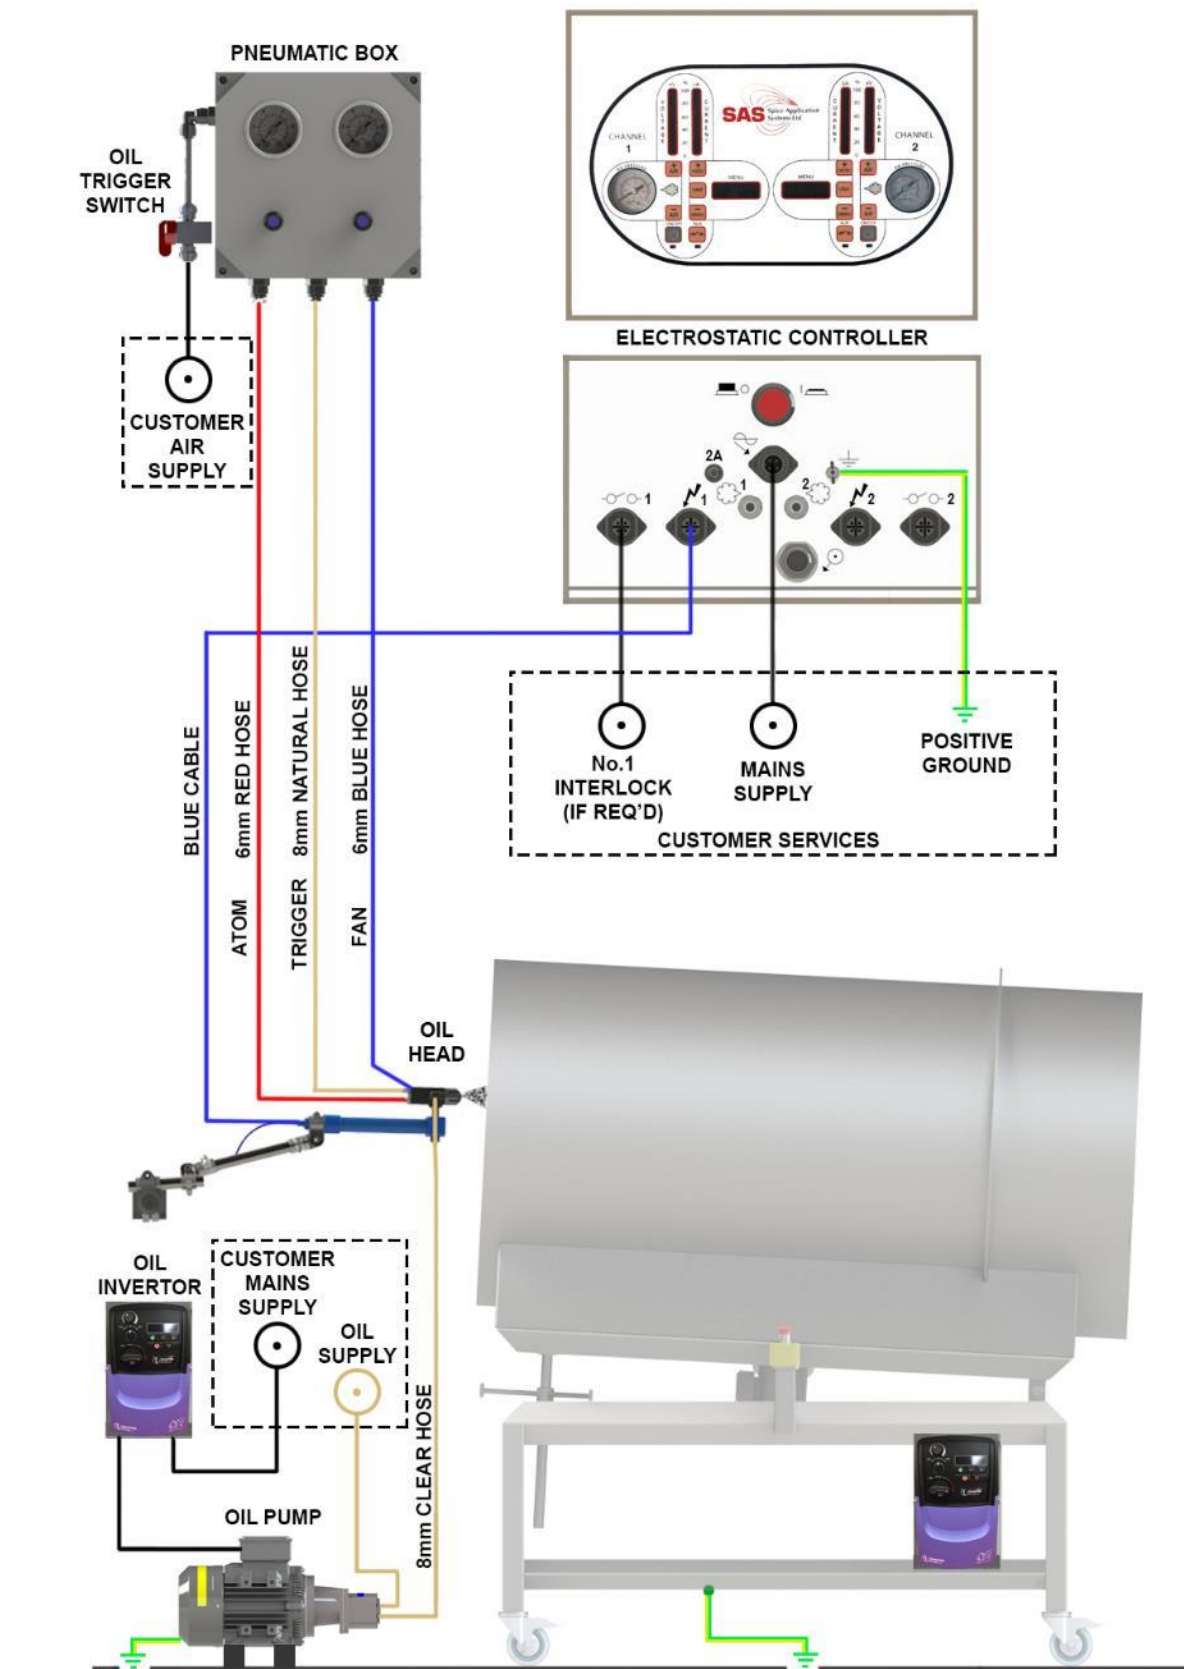
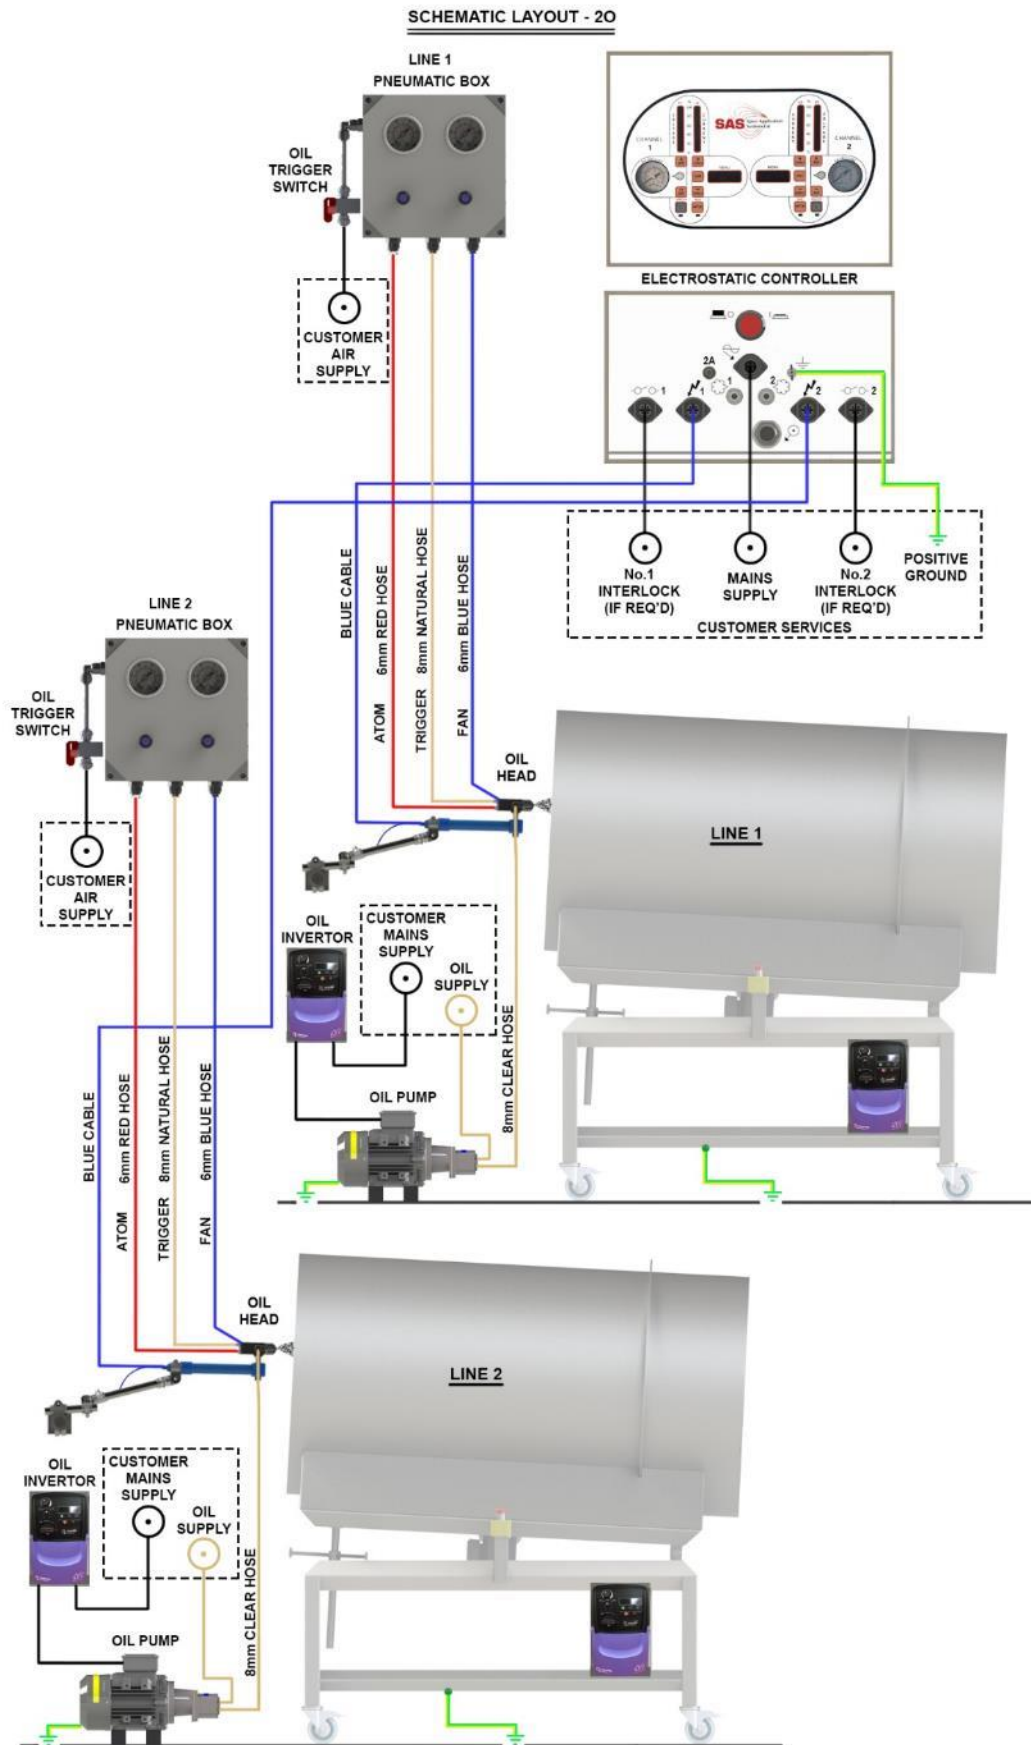

Fig 2
Fig 3
(see Page 10, Fig 3)*
25. For all Interconnection details of the equipment, please refer to page 9 - Fig 2 or page 10 - Fig 3 for your appropriate application.